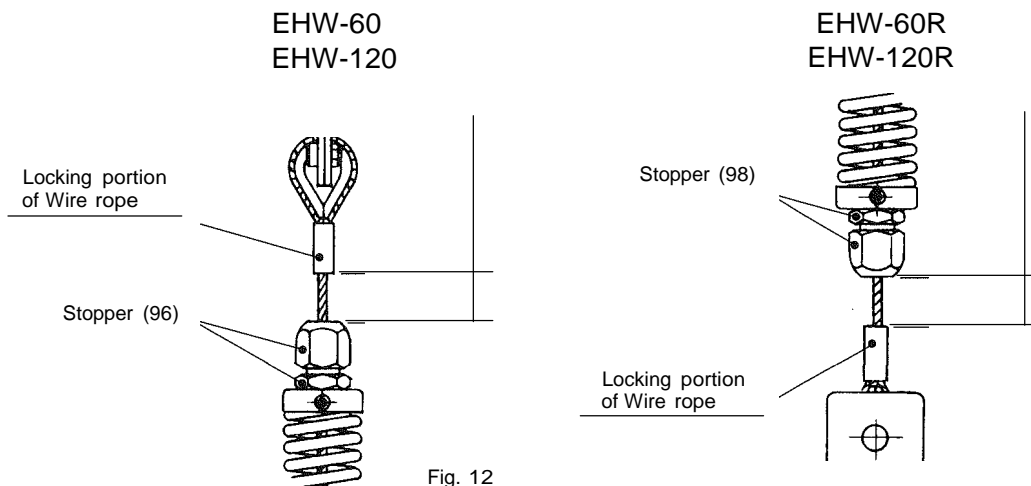

Fig. 12
-12) Stopper [For EHW-60 and EHW-120: (96), For EHW-60R and EHW-120R: (98)]
Set Stopper at approx. 65mm apart from the end of the locking portion of Wire rope (39). (See Fig. 12.)